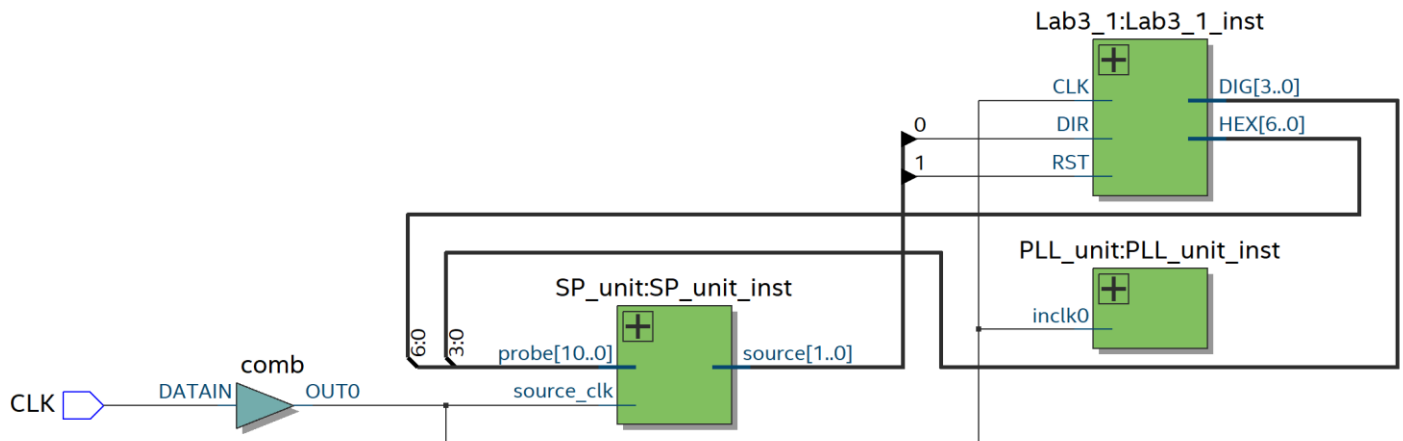

Figure 24
- 6 Be sure that you have something like Figure 24.